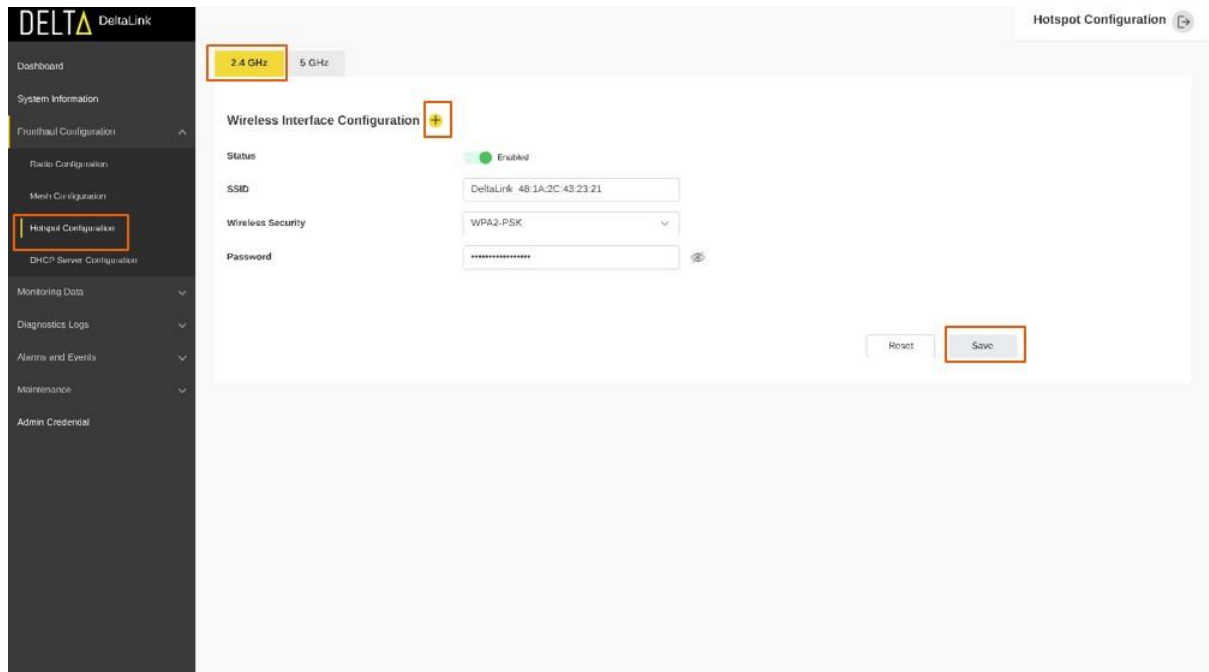
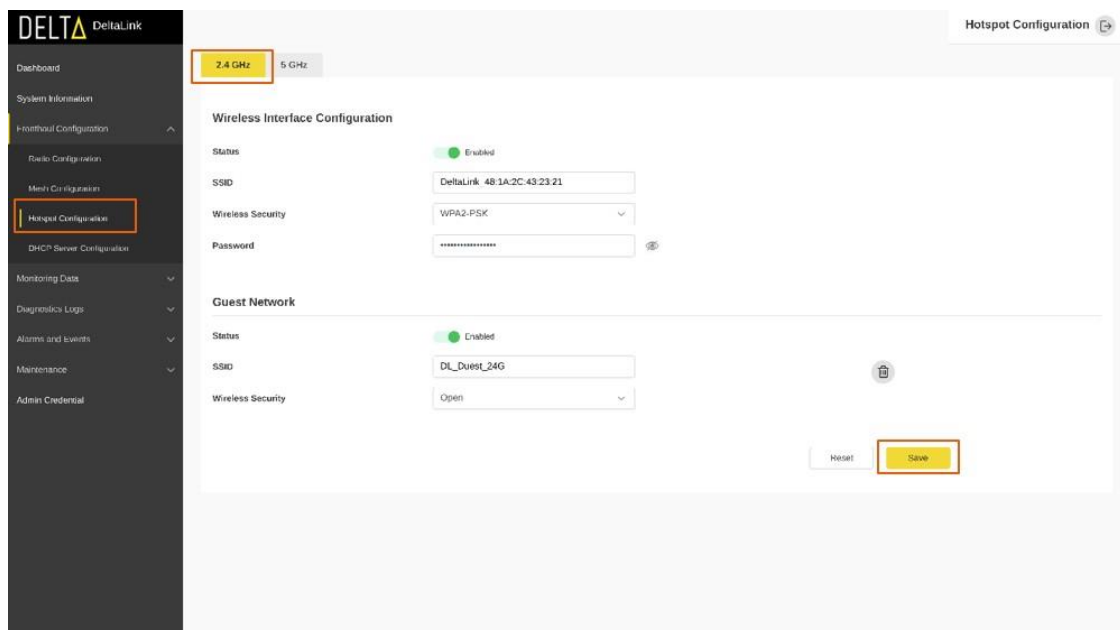

Figure 35 Hotspot Configuration 2.4 GHz - 1
Figure 36 Hotspot Configuration 2.4 GHz - 2
- b) To configure 2.4GHz SSID connections, select the "2.4 GHz" tab as shown in the Figure 35 below.
- e) Then, select "Save" to apply the configuration as shown in the below Figure 35 and Figure 36. The device now broadcasts the configured SSID.